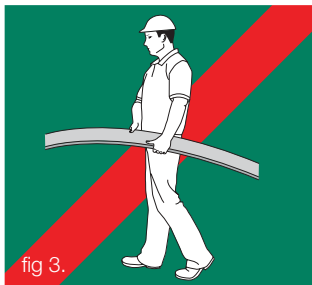

fig 3.
- Do not lift planked products flat and in the middle (figure 3)